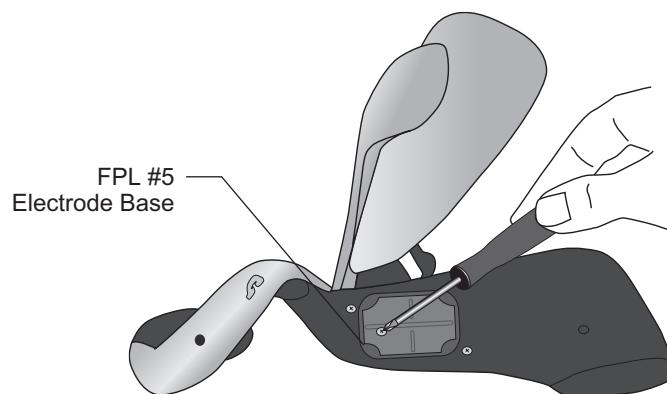

Figure 6-10: Removing the Screw from the FPL #5 Electrode
3. Remove the screw from the Orthosis FPL #5 electrode base. Do not remove the electrode base. See Figure 6-10.